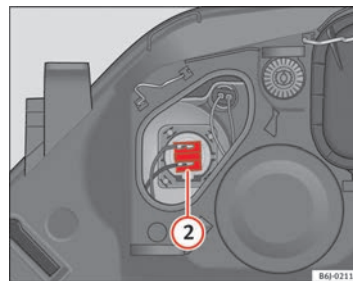

Fig. 145 Main beam headlights
- Remove connector ⇒ page 223, fig. 145 ② by pulling outward.